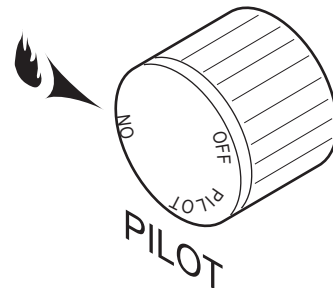

Figure 49 - On Position
Depress and turn the knob counterclockwise ↺ to the "ON" position. *Figure 49*. It will take less than four (4) seconds for the burner to ignite.